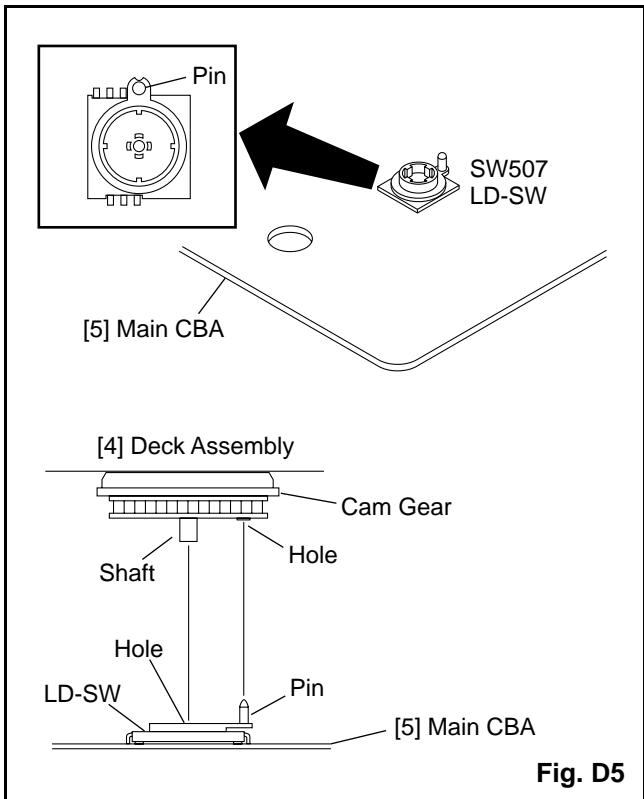

Fig. D5
3. Before installing the Deck Assembly, be sure to place the pin of LD-SW on Main CBA as shown in Fig. D5. Then, install the Deck Assembly while aligning the hole of Cam Gear with the pin of LD-SW, the shaft of Cam Gear with the hole of LD-SW as shown in Fig. D5.